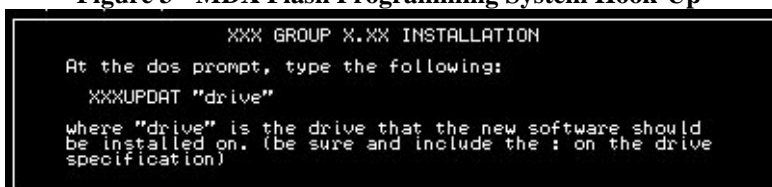

Figure 4 - Introductory Screen
3. The Introductory Screen in Figure 4 will appear. This screen verifies the type of radio and the Group number of the System Software included with this update. To begin the Software installation onto your destination drive, type: